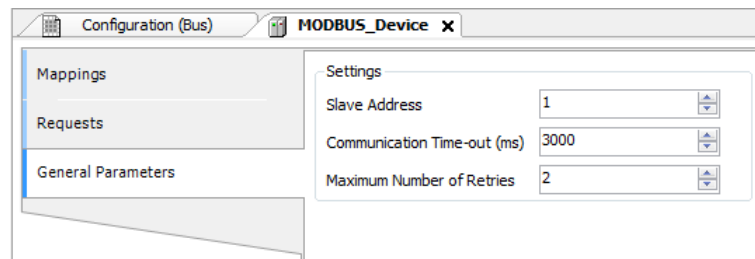

Figure 70: Device General Parameters Settings
- Add and configure devices via the General Parameters tab, defining the slave address, communication time-out and number of communication retries as can be seen in Figure 70.